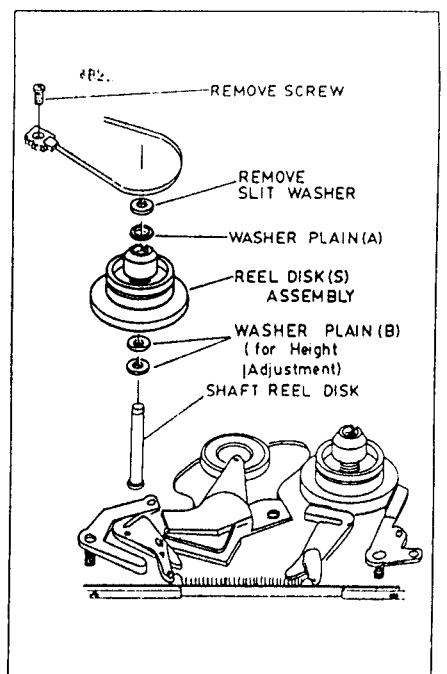

Fig. 33 Reel Disk (S) Assembly Removal
2-2-15. Reel Disk (S) Assembly Removal (Fig. 33)